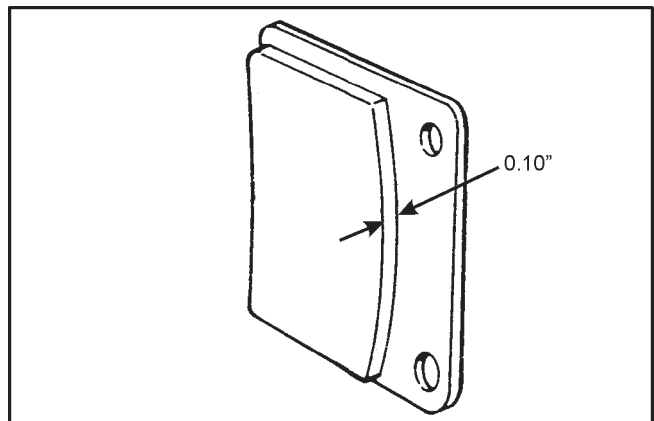

Figure 7-24. Brake pad wear; hydraulic brakes.
- the brake lining material molded to each metal backing plate is worn to 0.10" thickness. (Figure 7-24).